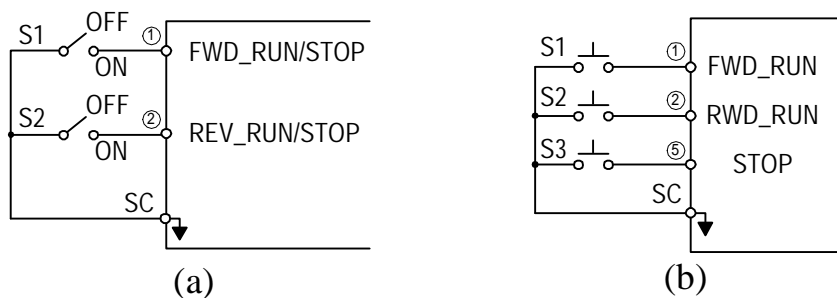

Fig. 40 2-wire mode connection diagram
Under a standard 2-wire initialization mode as shown in Fig. 40(a), S1 and S2 can not be both “ON” at the same time.
When Sn-25=’01’, the 2-wire operation mode has its self-sustaining function. Only through the multi-function input terminal ⑤, the operator can stop the inverter after pressing the “STOP” key as shown in Fig. 40(b). As shown in Fig. 40(b), the switches S1, S2 and S3 do not need to be the self-sustaining switches. When S1 is depressed “ON”, the motor will be forward running. After S3 is depressed “ON”, the motor will stop. When S2 is depressed “ON”, the motor will be reverse running. After S3 is depressed “ON”, the motor will stop.